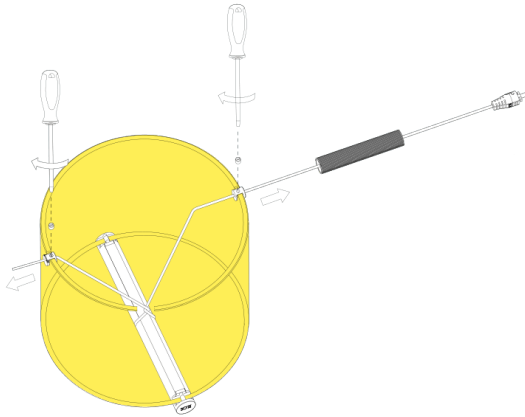

Fig.4
- Unfasten the two connector fixing screws (B).(Fig.4)